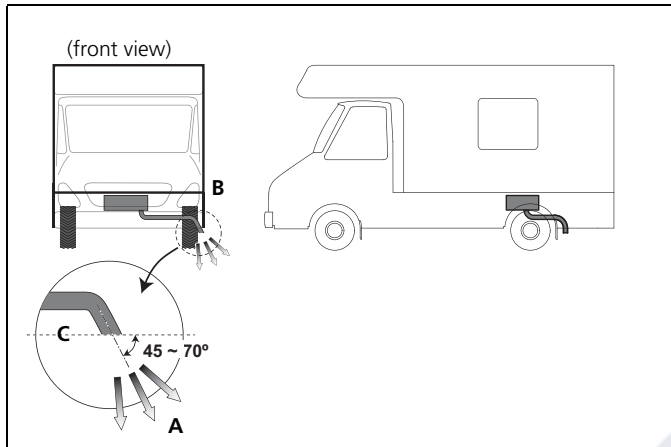

Fig. 42: Location and direction of exhaust
- The line must not point to the front of the vehicle. See Fig. 42.
- **Avoid the formation of an exhaust bag under the vehicle. See Fig. 42.**
If the exhaust pipe end is other than as shown, it will pose a fire risk. See Fig. 42.